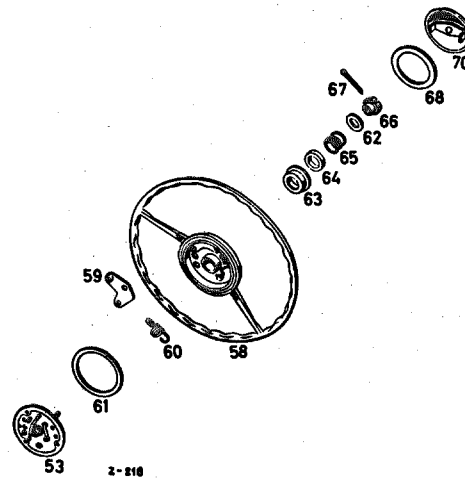

Fig. 46 — 2/5
- Install the contact plate so that the bore in the contact plate is in line with the one in the steering column jacket (see Fig. 46—1/3). Then fix the contact plate to the steering wheel, using the three fixing screws (1) (see Fig. 46—2/2).
- Insert the brass washer (61) in the steering wheel and install the horn ring (58); when doing this, lift the notch plate (59) a little. Then install the contact cup (63), insulating plate (64), compression spring (65) and contact disk (62), and screw on the adjusting nut (66) (Fig. 46—2/5).